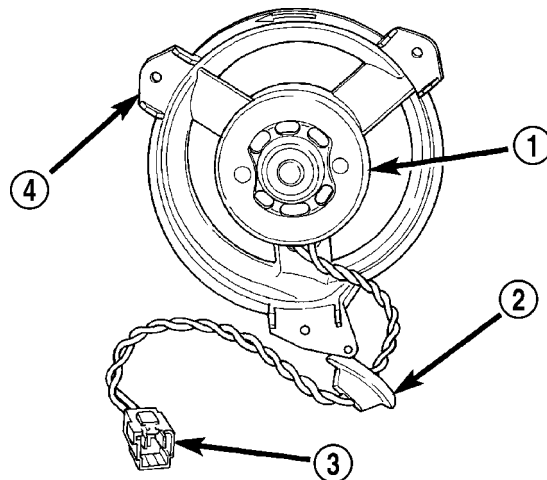

Fig. 5 Blower Motor
The blower motor is a 12-volt, direct current (DC) motor mounted within a plastic housing with a squirrel cage-type blower wheel that is secured to the blower motor shaft and an integral wire harness with a grommet and connector (Fig. 5). The blower motor and wheel is located in the air inlet housing at the passenger side end of the HVAC housing.